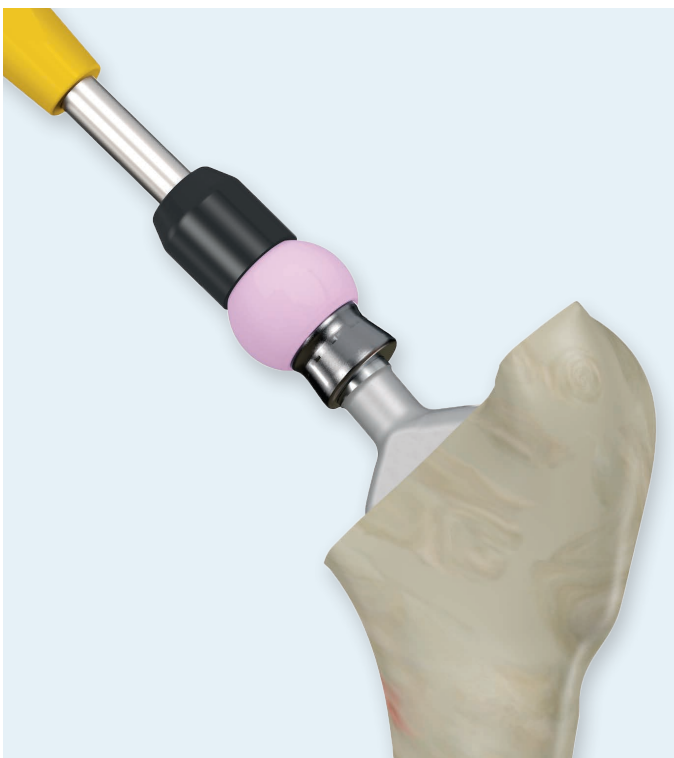

Figure 23 Light tapping of the head with the head impactor
- Fixing the head with a light hammer blow in axial direction using the plastic head inserter (head impactor, Fig. 23).